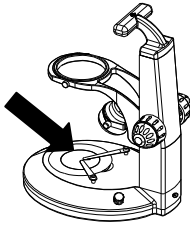

Figure 1
- 1) Place the microscope base on a flat, firm surface and position the frosted stage plate on the base. (Figure 1)